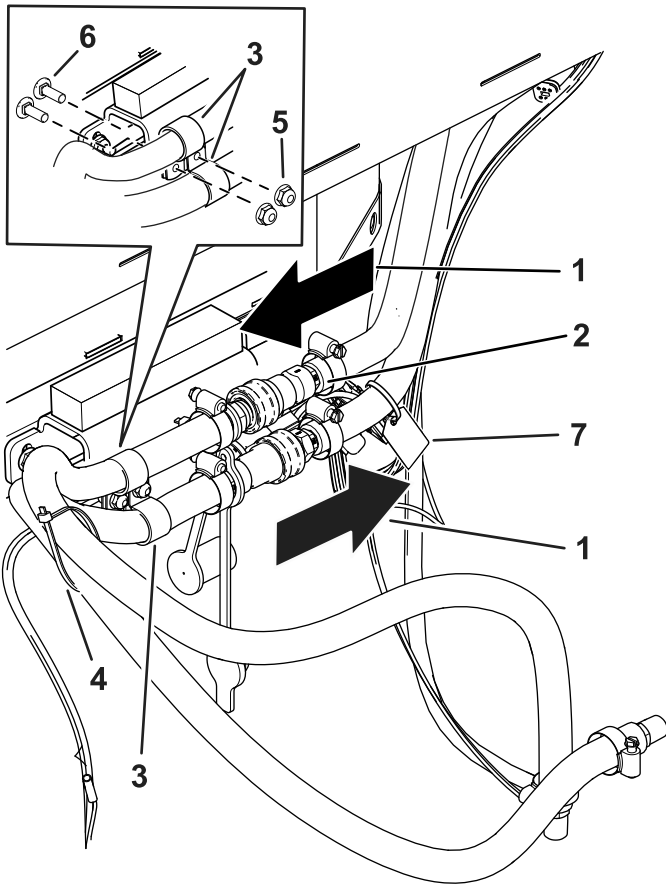

Figure 25
| 11. Manually secure the engine fittings into the ports until they are finger-tight. | 16. Secure the hoses to the back of the cab with 2 carriage bolts and 2 nuts (Figure 24 and Figure 25). |
17. Secure the hoses away from moving parts and hot surfaces with cable ties (Figure 25).